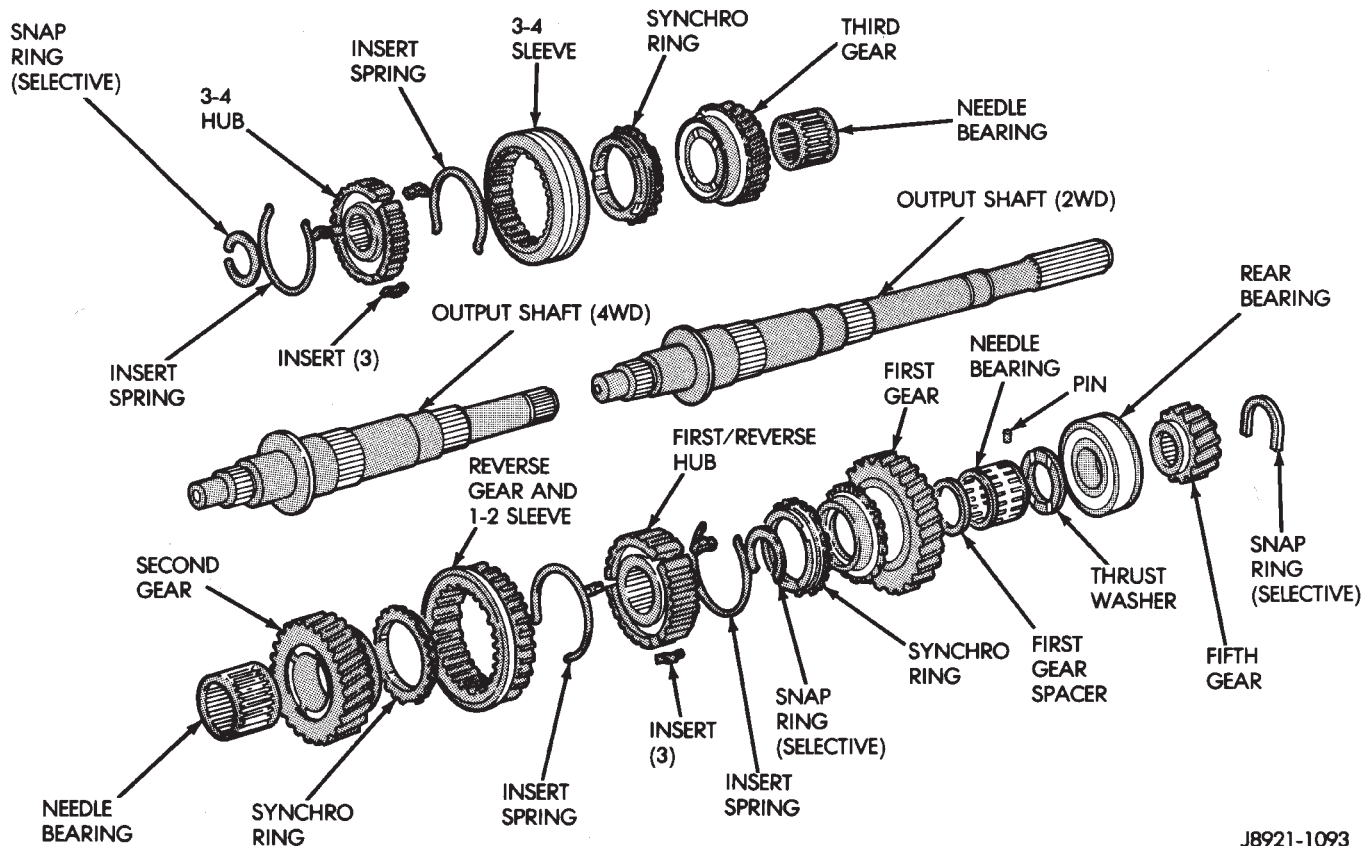

Fig. 63 Output Shaft And Gears
(5) Remove first/reverse hub snap ring (Fig. 63).
(6) Remove synchro ring.
(7) Press reverse gear and first/reverse hub off shaft as assembly.
(8) Remove remaining synchro ring and second gear and bearing (Fig. 63).
(9) Remove snap ring at front of output shaft (Fig. 63).
(10) Press 3-4 hub and sleeve off output shaft as assembly (Fig. 63).
(11) Remove synchro ring.
(12) Remove third gear and needle bearing (Fig. 63).
(1) Lubricate output shaft journals, gears and needle bearings with Mopar 75W-90 gear lubricant.
(2) Install third gear and needle bearing on shaft (Fig. 63)
(3) Install synchro ring on third gear (Fig. 63).